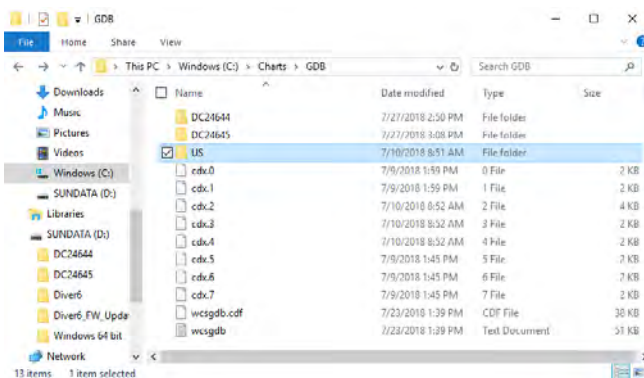

Figure 81: Chart Directory
1. Download your charts and place them in your chart GDB directory. See (Figure 81) the example directory structure to the right.